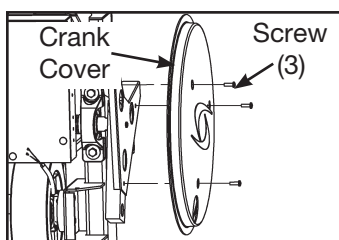

Figure 5
- A. Using a Phillips screwdriver, remove the three screws securing each crank cover (and remove the crank covers). See Figure 5.